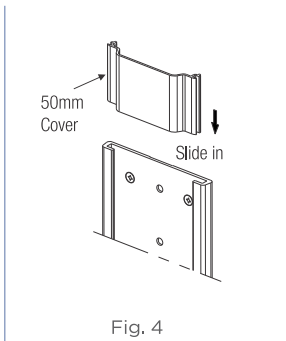

Fig. 4
4. Slide in one 50mm cover from top to the vertical track as shown in Fig. 4.